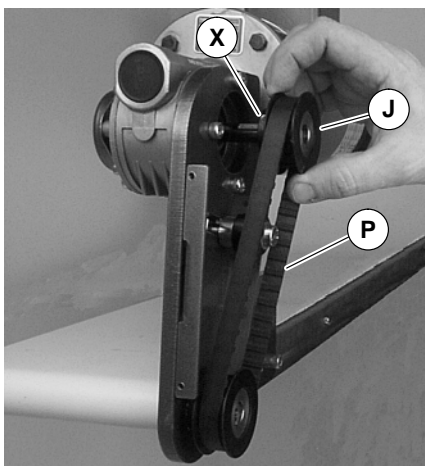

Figure 13
**NOTE:** If drive pulley (J of Figure 13) is replaced, wrap timing belt around drive pulley and complete step 3.
3. Loosen drive pulley set screws (X of Figure 13). Remove drive pulley (J) and timing belt (P).
**NOTE:** Drive pulley (J of Figure 13) is removed. Wrap timing belt around drive pulley and complete step 13.